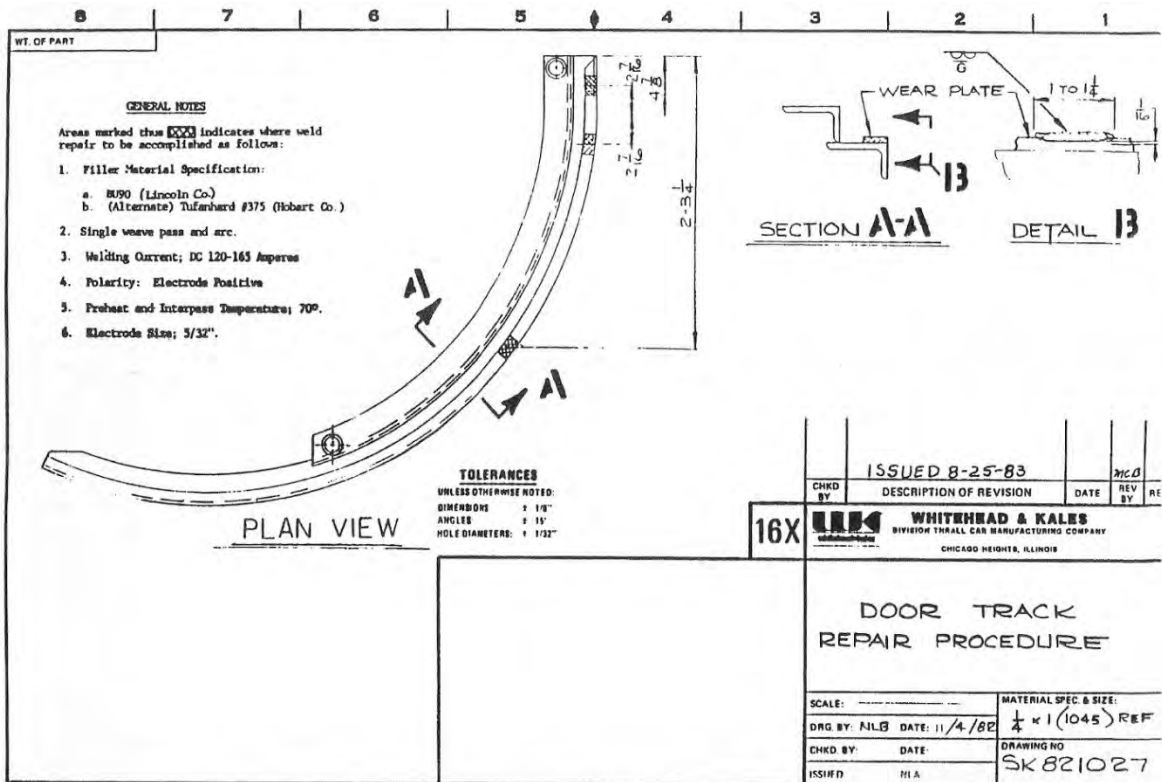

Figure 3
1. All grooves in the bottom door track wear plate should be welded and ground smooth as shown in Figure 3.